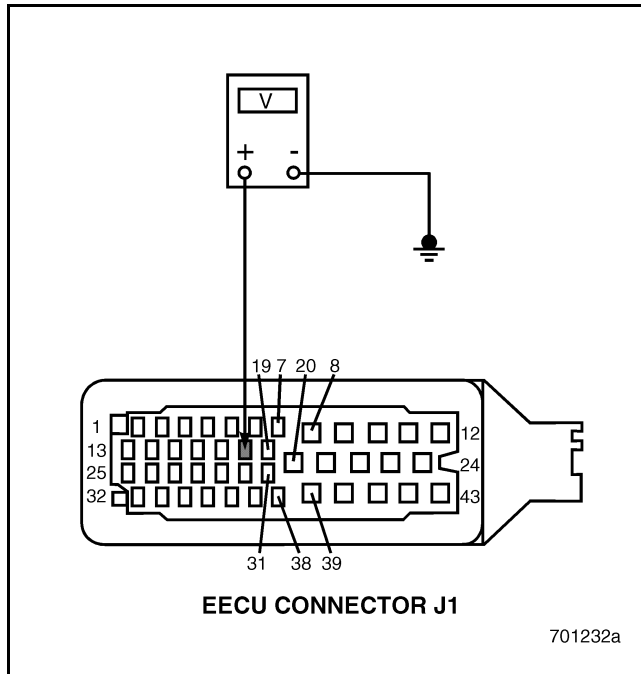

Figure 395
3. Disconnect the Engine Position (EP) Sensor connector.
5. Measure the voltage between EECU connector J1 pin 18 and a good ground (see Figure 395).